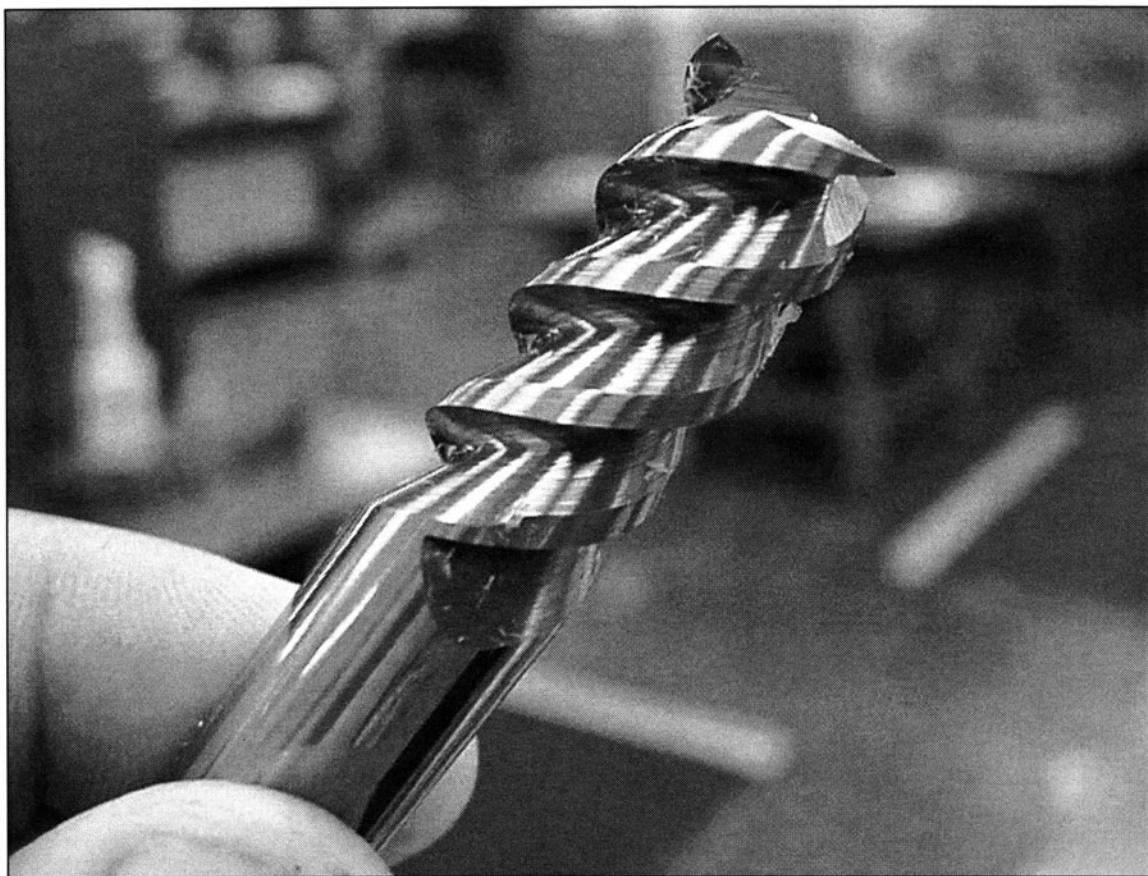

FIGURE 4-2 High helix end mills produce smooth side milled surfaces.
3. *Use sturdy high helix multiflute end mills when side milling to achieve the best surface finishes. (See Fig. 4-2)*